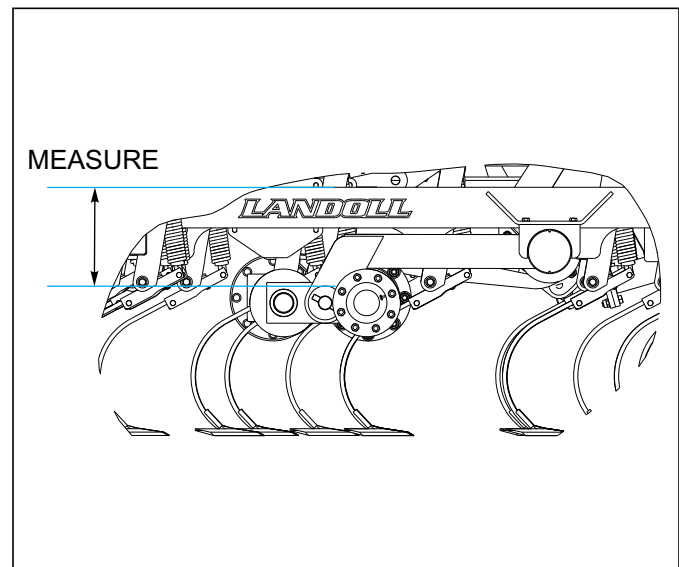

Figure 4-12: Leveling Wing Frame from Side to Side
3. Measure the wing frames from the top of the welded washer with the cross pin through it to the top of the frame. As a starting point, make this dimension the same as the center frame. Adjust the cylinder anchor at the base end of each wing frame lift cylinder to set the wing frame height. An adjusting wrench is provided on the center frame to make this adjustment. It may be necessary to lower the Finisholl to the ground and relieve weight on the lift cylinder anchors to make this adjustment. If required, fully raise the implement, lower to just above the ground (approximately 1"), and re-verify measurements. Repeat as necessary until the center and wing frame heights are the same. Securely tighten the lift cylinder anchor adjusting nuts when complete (See Figure 4-12.)